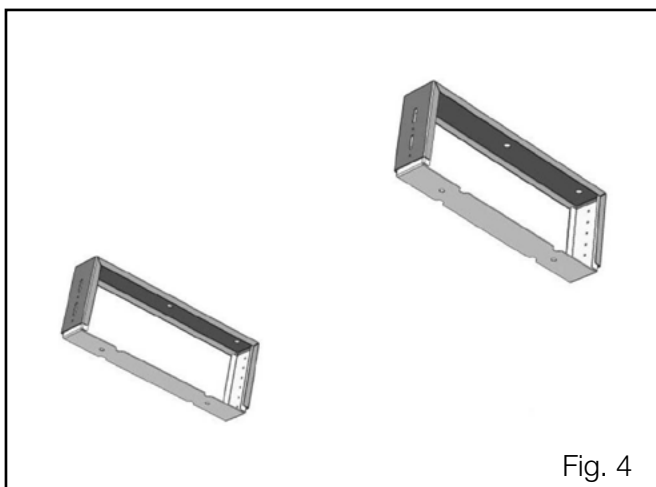
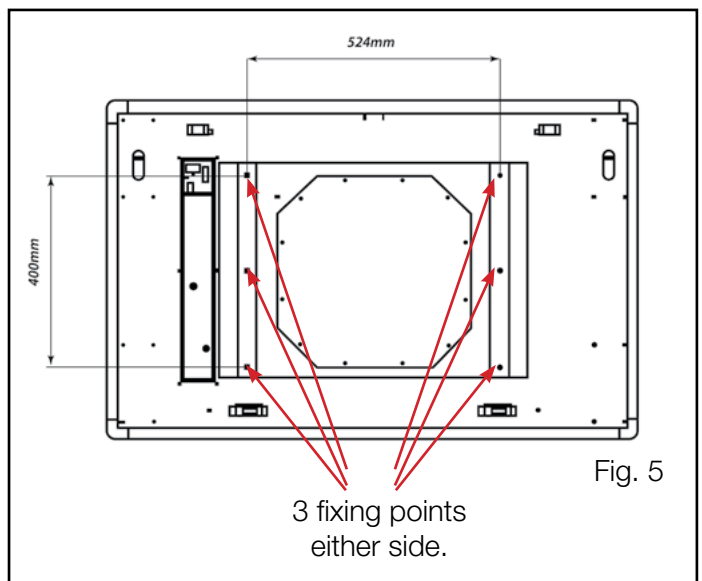

Fig. 4
Fig. 5
2. Attach the bottom half of the mounting brackets to the Cassette (Fig. 4) by using the supplied 6 x 20mm threaded screws and screwing them in from the inside of the cassette in the specified location. (Fig. 5)